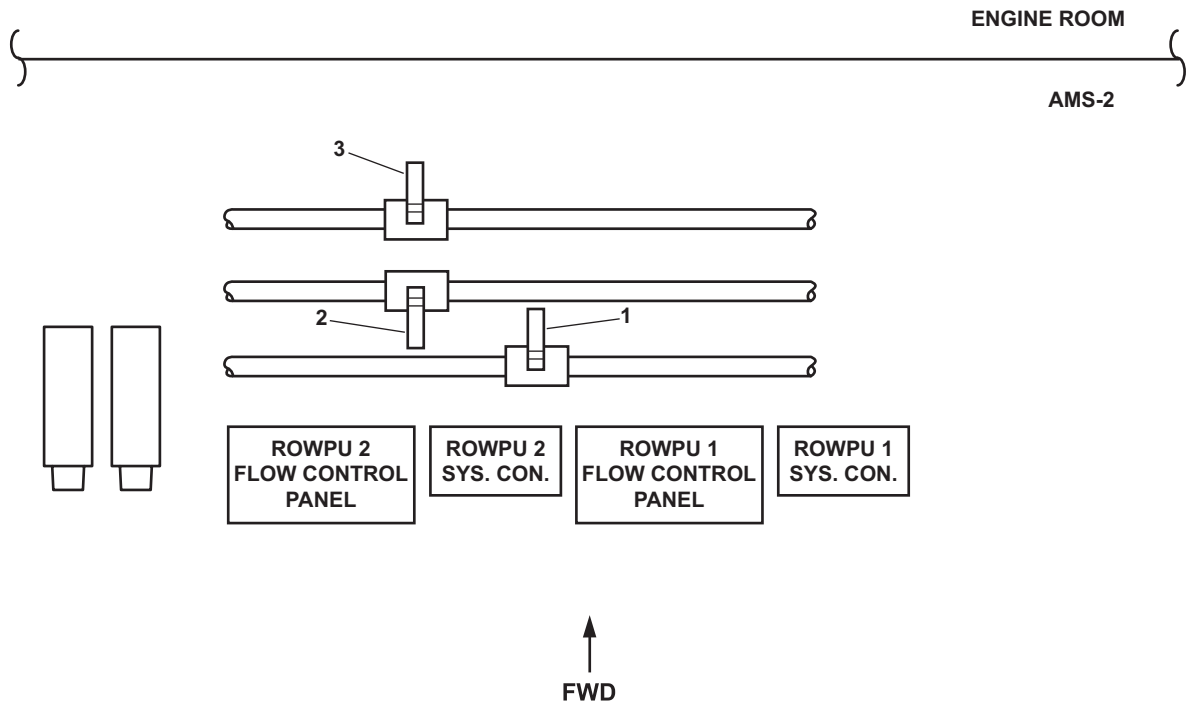

Figure 12. ROWPU System Valves as Viewed from Above
- d. RO-V-1-2 (figure 12, item 1), ROWPU 1 brine discharge valve
- e. RO-V-2-2 (figure 12, item 2), ROWPU 2 brine discharge valve
- f. RO-V-8 (figure 12, item 3), product water discharge valve